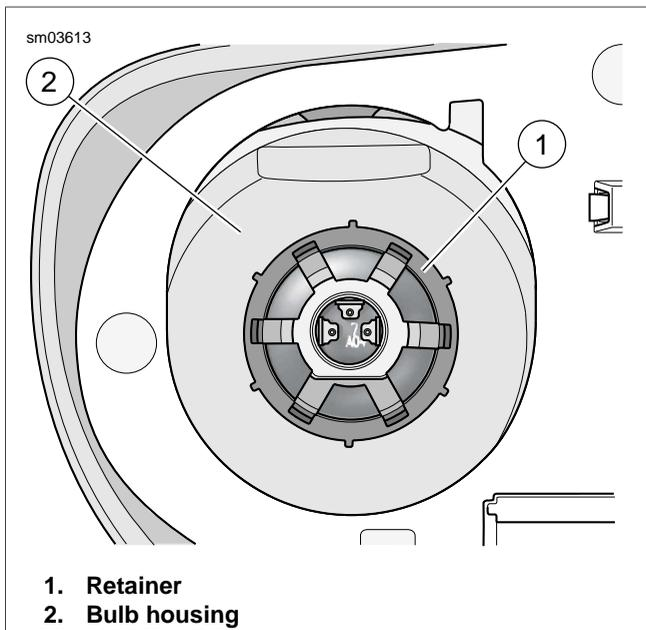

Figure 8-21. Remove Retainer to Release Bulb
5. Rotate retainer in a counter-clockwise direction to remove from bulb housing. See Figure 8-21.
2. See Figure 8-21. Place retainer over bulb housing and rotate in a clockwise direction until tight.